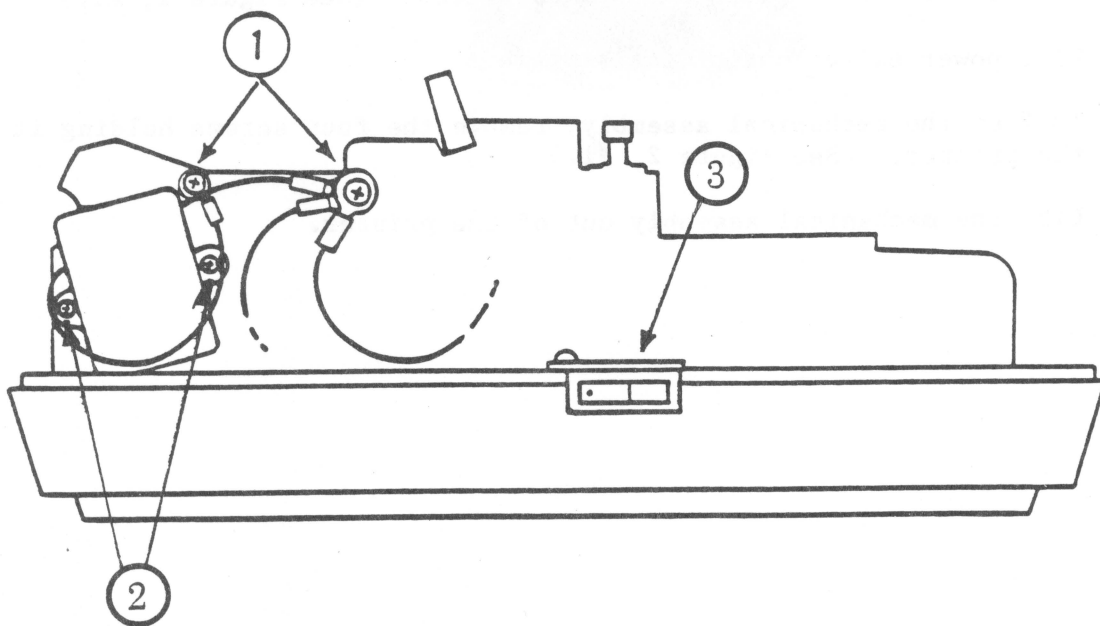

FIGURE 4
3. Position the noise filter on the frame. It goes at an angle (See Figure 4, #1.)
5. Put together the screw, washer, three ground cables, and star washer. Screw them into the side frame. Do the same with the fourth ground cable. (See Figure 4, #2.)
7. Replace the plate over the power switch. (See Figure 4, #3.)